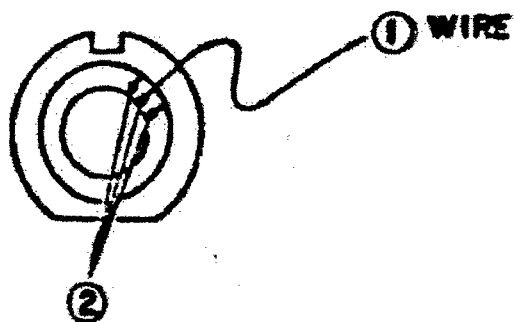

Fig. 7
- (5) For larger adjustments, change the anchor position of the wire on Pulley (CA1-0032-000) as shown in Figure 7.